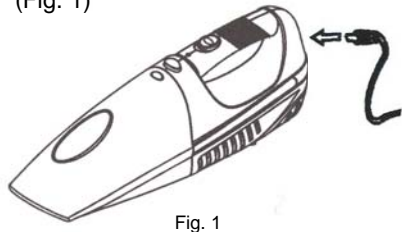

Fig. 1
4. The charging indicator light will shine green to indicate that the vacuum cleaner being charged. (Fig. 1)